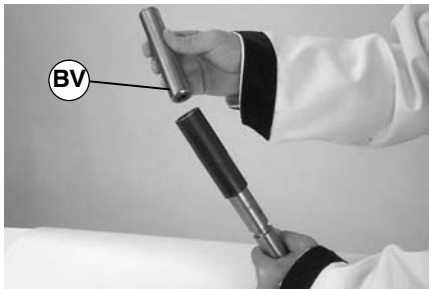

Figure 39
4. Place open end of pusher (BV of Figure 39) into sleeve.